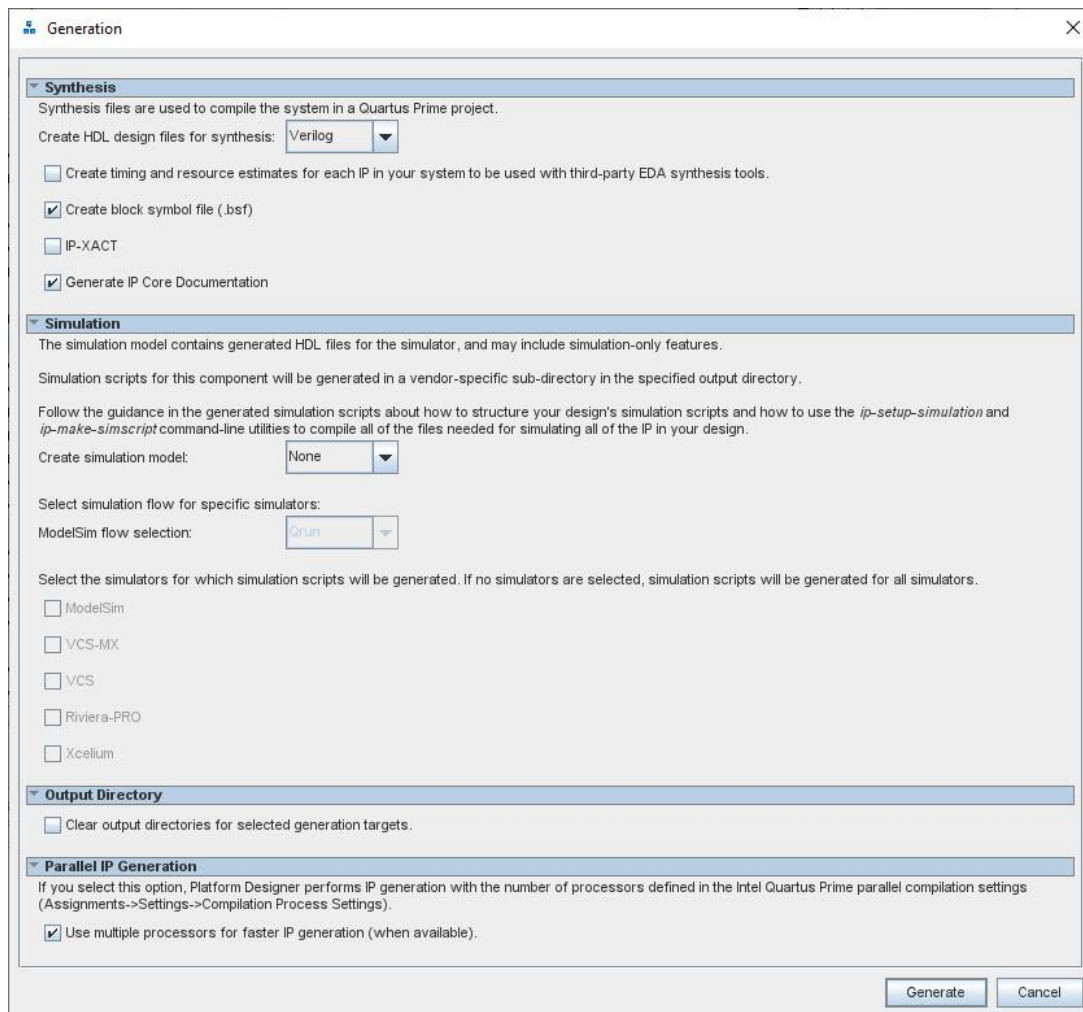
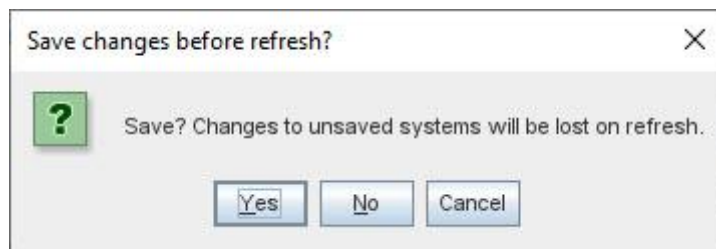

Figure 2-27 Generate Platform Designer
Figure 2-28 Save changes
3. Click **Generate** > **Generate HDL** and then pop a window as shown in Figure 2-27. Click **Generate** and then pop a window as shown in Figure 2-28. Click **Save** and the generation start.